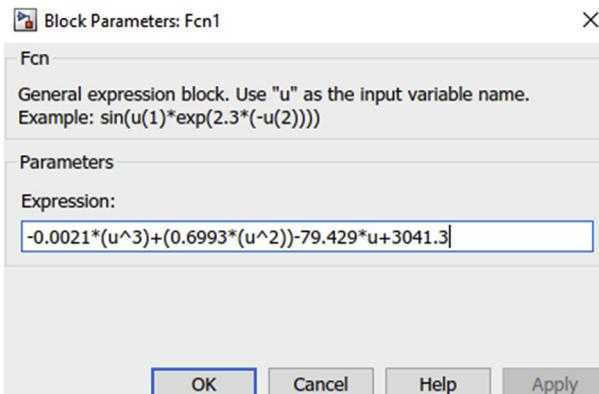

Figure 10.31 Piecewise function for time to RPM.
- c. Double click on the Fcn block as insert the fifth piecewise function as shown in Fig. 10.31.